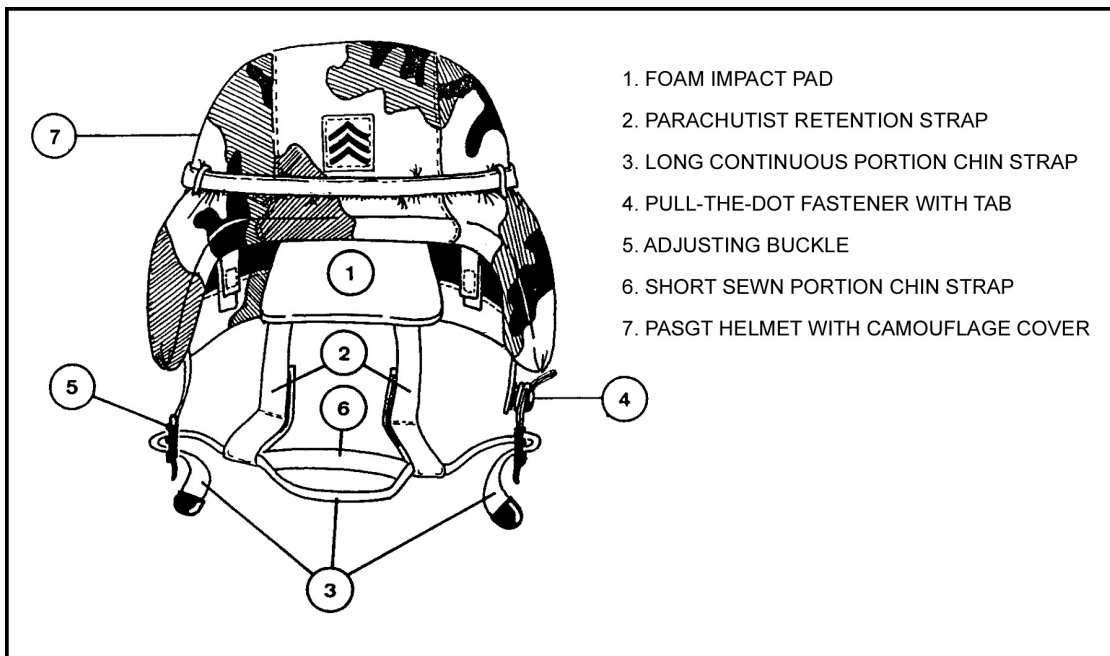

Figure 2-8. PASGT helmet and nomenclature.
b. **Camouflage Cover.** A camouflage cover (Figure 2-8) is secured to the helmet by placing the cover over the helmet and threading both sides of the unfastened chin strap through the corresponding slits in the cover. The two rear attachment tabs of the cover are tucked between the cover and the helmet. The two ends of the parachutist retention strap are threaded through the corresponding slits in the rear of the cover. The four remaining attachment tabs are fastened around the nylon webbing of the suspension band with drawstring and adjustable tab.